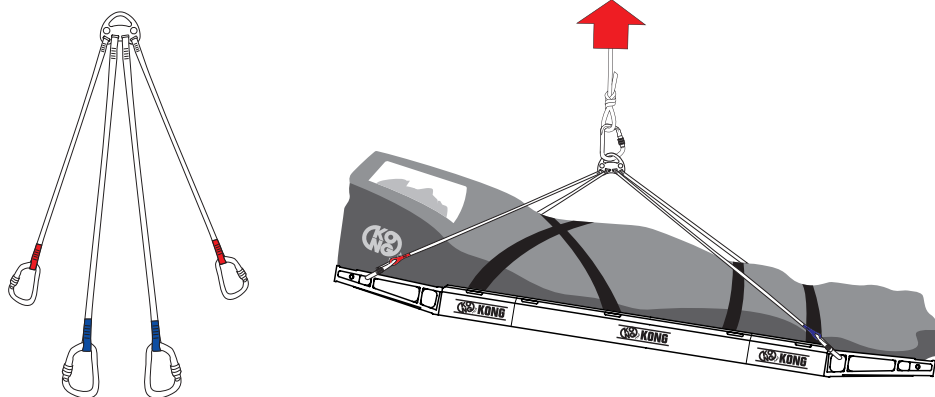

Fig. 2
- b) 871.00 ORION, 871.01 GEMINI and 871.04 EVOLUTION suspensions (figures 2, 3 and 4),